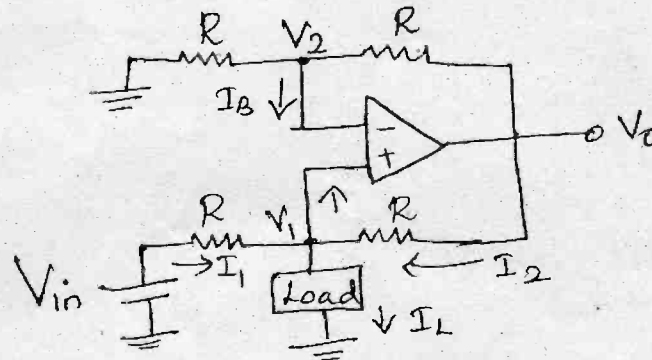

Figure 3
- (b) (i) For a V-I convertor shown in figure 3,  $V_{in} = 5V$ ,  $R = 10 K\Omega$ ,  $V_1 = 1V$ , find the load current and output voltage  $V_0$ . Assume the op-amp is initially nulled. (6)